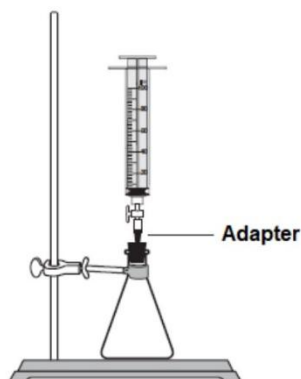

Figure 1. Gas collection apparatus.
1. Assemble the gas collection setup (see **Figure 1**). Make sure the rubber stopper fits tightly and the stopcock is open.